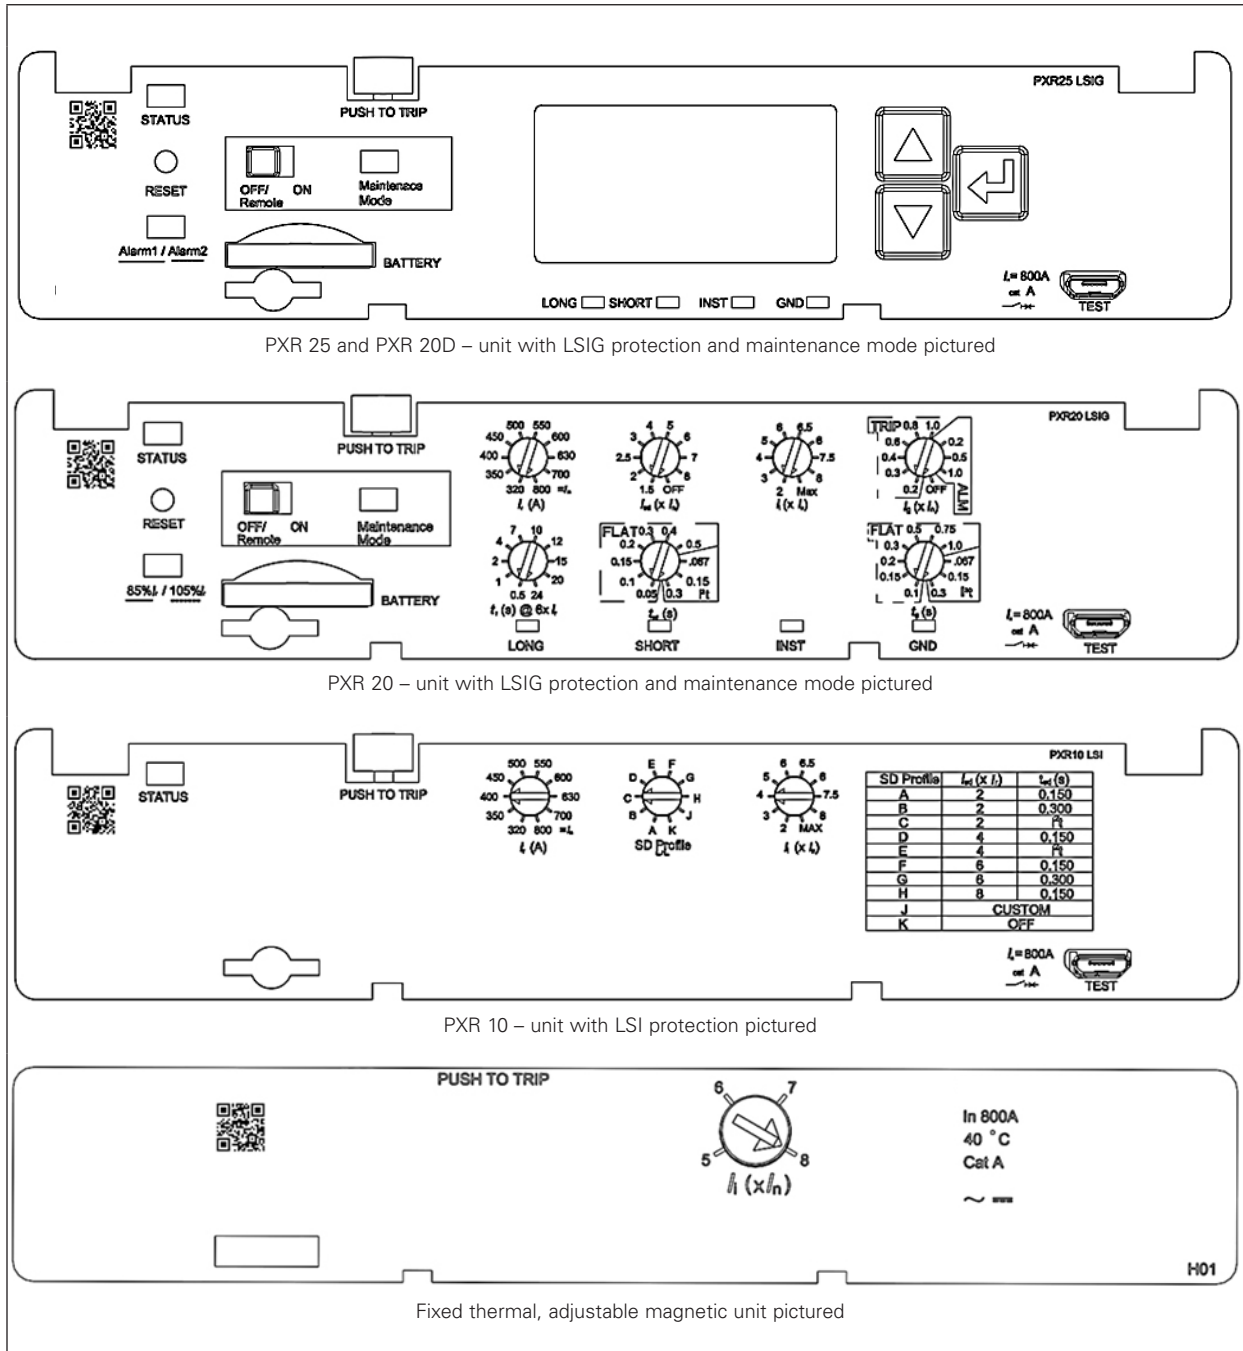

Figure 1. Power Defense frame 4 trip unit front labels
**Note:** Trip unit drawings in Figure 1 are representative of the face plates provided. Values on the trip unit dials will change based upon the specific breaker and trip unit. Refer to the time current curve of the breaker or the PXR User Guide for the specific settings.